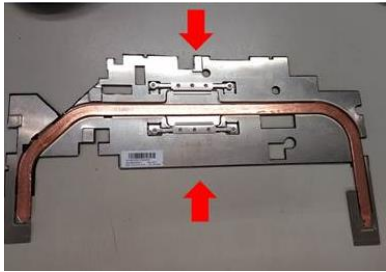

Fig 1
- 1. Placed on the fixture, face B up (Fig 1)